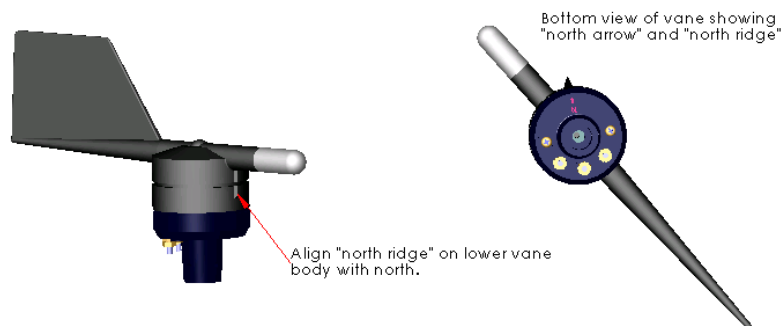

Figure 4
7. Attach the wind vane with the north arrow index mark on the base pointing in the same direction as the north mark on the compass. The #200P wind direction vane is designed to mount with a cotter pin and set screw to a NRG sensor mounting boom. The cotter pin installs horizontally through drill holes in the boom and vane, allowing the base of the vane to point in one of two directions, toward the tower or away from the tower. See Figure 4.